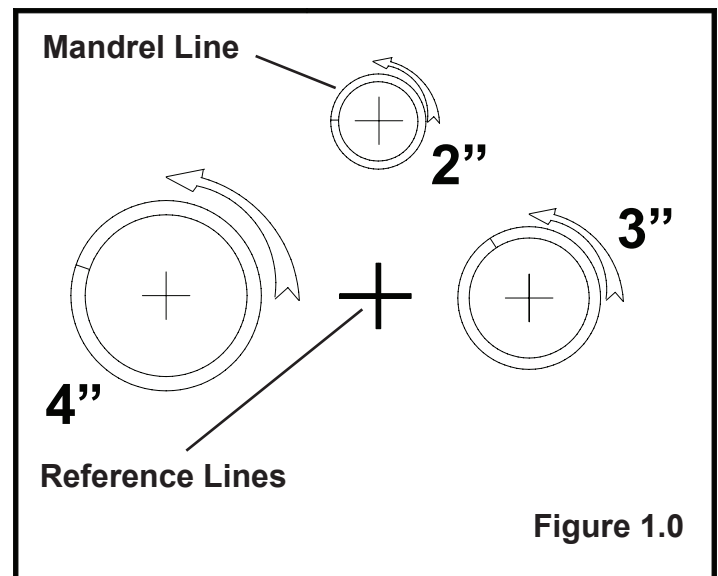

Figure 1.0
- Rotate mandrel line away from reference line to increase thickness, i.e. to make thicker see Figure 1.0.